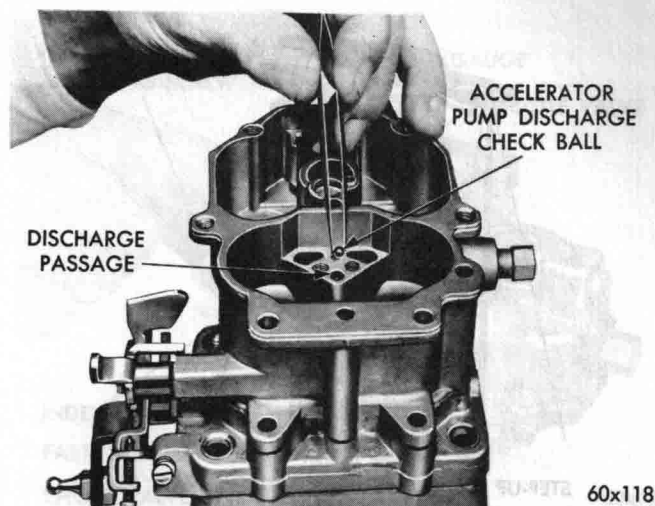

Fig. 11—Installing Accelerator Pump Discharge Check Ball
(8) Invert the main body and place a new gasket in position, then place the throttle body on main body and align. Install screws and tighten securely.
(9) Install the accelerator pump discharge check ball in the discharge passage, as shown in Figure 11.